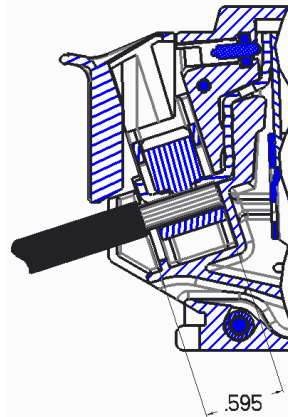

Figure 4: Stripped wire installed
6. Wire the circuit breaker to be used as main. Fig. 4
After stripping the wires to the required length, the wires can be installed as shown in Figure 4. The service barrier must be correctly installed to maintain electrical isolation from accidental contact. Torque the wires according the torque specification on the breaker.